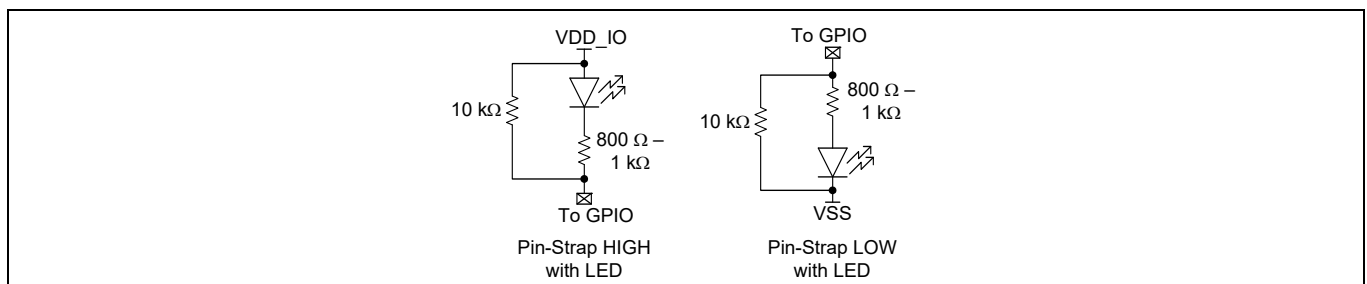
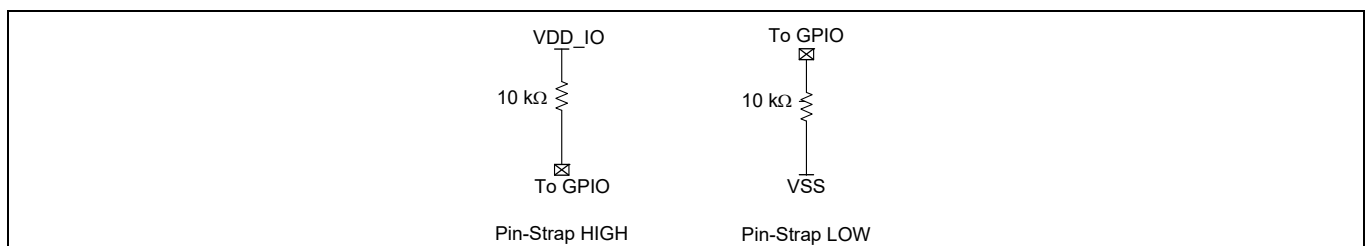

Figure 17 Pin-strap with LED or LED-only connection
Figure 18 Pin-strap connection
The pin-straps are supported for select product options (see Table 1) to provide reconfigurability without an additional EEPROM. The pin-strap configuration is enabled by pulling Pin #B9 HIGH. Table 6 shows the configuration options supported through pin-straps and the GPIOs used for this purpose. Figure 17 and Figure 18 show how the GPIOs need to be connected if pin-strap and LED connection are required or only pin-strap is required.
10. See Figure 17 and Figure 18.